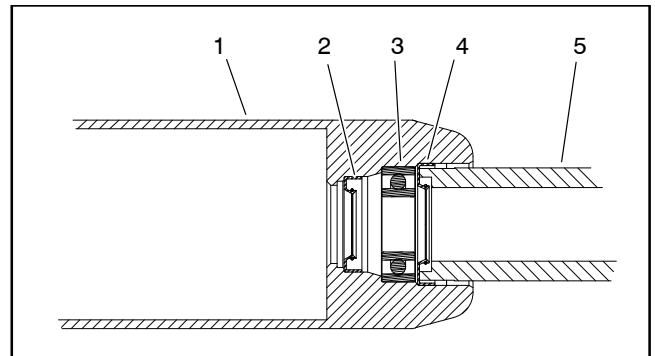

Figure 50
C. Install first outer seal into roller tube making sure that seal lip (and garter spring) faces end of tube. Use bearing/outer seal tool (see Special Tools) and soft face hammer to lightly seat seal against roller shoulder (Fig. 50). Make sure that bearing still freely rotates after seal installation.